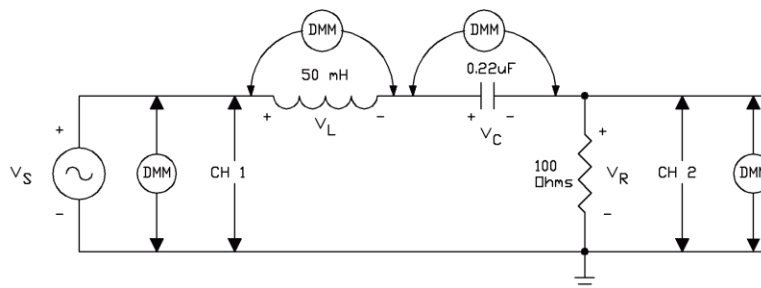

Figure 4
- Construct the circuit shown below in Figure 4. Use the Tektronix AFG 1022 Function Generator output 1 for V_S and connect the Tektronix TBS 1064 Oscilloscope CH 1 and 2 as shown. This figure must appear in your report. Calculate the resonant frequency, f_0 , using EQ 2. This calculation must appear in your report. Set the function generator frequency to the resonant frequency that you calculated and set the amplitude to 5 volts.
Using either LTspice or PSpice simulate the circuit shown in Figure 4. Set the spice voltage source amplitude to $3.5355V (5/\sqrt{2})$ so the spice voltage, V_R , will be in RMS units. Sweep the frequency from 700 Hz to 3000 Hz. Use the cursors to determine the resonant frequency, the cutoff frequencies, the bandwidth and the maximum output voltage, V_R . The simulation circuit